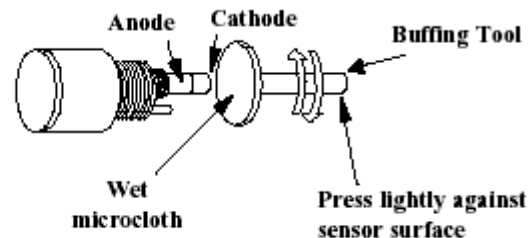

Figure 6
Anode Cleaning Procedures (See figure 6)
- _ Twist the buffing tool back and forth three times in opposite directions while lightly pressing the buffing tool against the sensor surface (see figure 6).